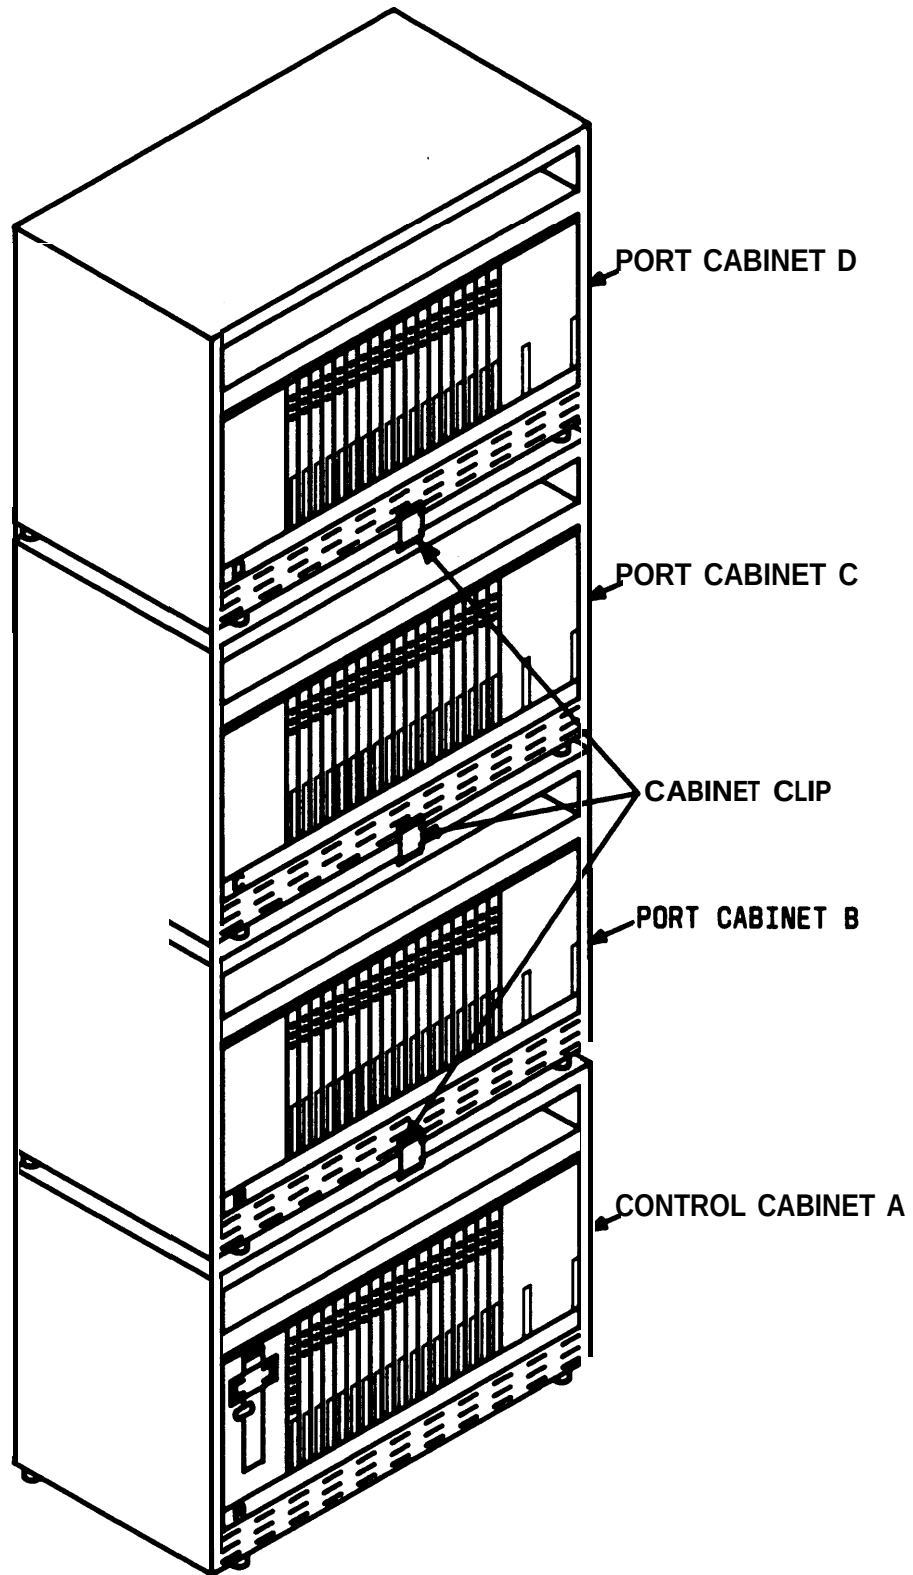

Figure 38. Four-Cabinet System—Front View, Doors Removed
2. See DANGER. Stack cabinet(s) on top of control cabinet A (see Figure 38).
At the front of the cabinets, install cabinet clip between the cabinets by hooking the clip into the slot on the upper cabinet and snapping the straight leg of the clip into the slot on the lower cabinet (see Figures 38 and 41).